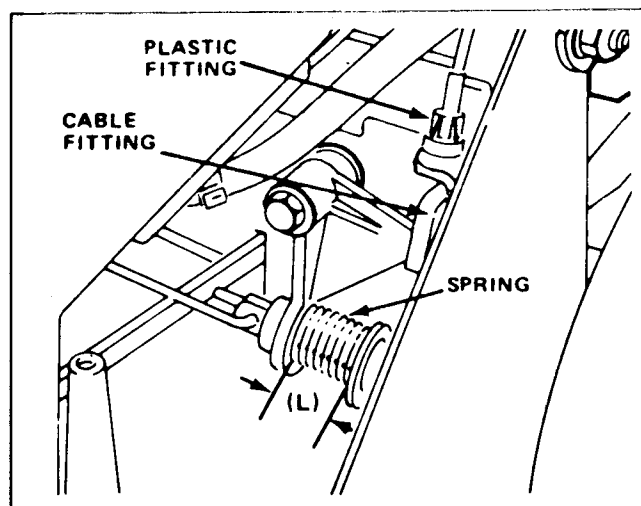

Figure 100
5. Hook the lower end of the BBC cable onto the bellcrank then slip the cable through the slot in the cable bracket. Push the end of the cable sheath into the cable support bracket as shown in Figure 100.